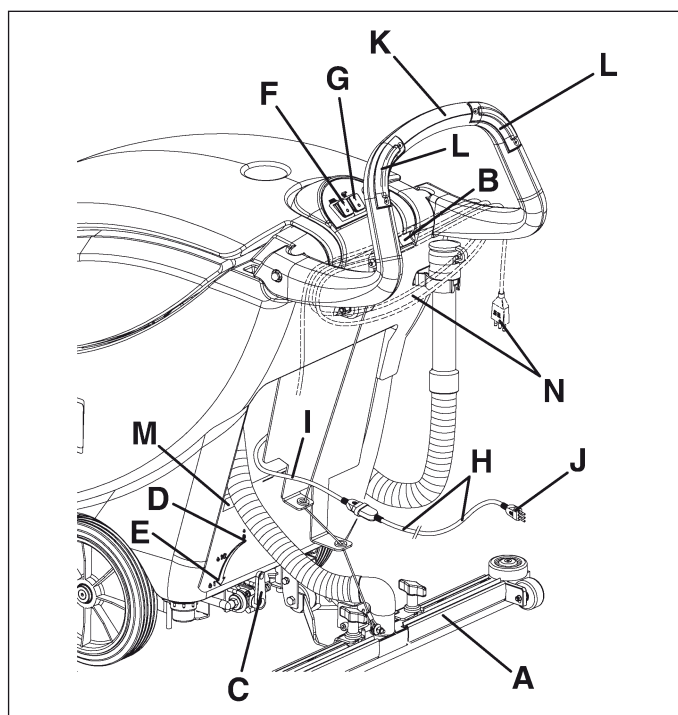

Figure 8
Connect the power supply cable (I) to the extension (H, Fig. 8) supplied. Connect the extension plug (J) to the electrical mains.
Before connecting the machine to the electrical mains, make sure that the frequency and voltage shown in the serial number plate/technical data (M, Fig. 8) match the mains voltage.
3. Lower the squeegee (A, Fig. 8) by pushing the lever (B) downwards.
4. Turn the solution flow control lever (C, Fig. 8) to one of the following positions, according to the type of cleaning to be carried out:
- **ECO system:** When the lever (C, Fig. 8) is in the “ECO” position (D), the machine works in a special condition of programmed water “economy” usage; as the water flow is set and constant, the machine can work with a cleaning time of 70-80 minutes [0.08 gal/min (0.3 liters/min)].
- **Variable system:** When the lever is turned to the left (variable flow), it is possible to increase the capacity up to 0.26 gal/min (1 liter/min) (E, Fig. 8).During machine operation, it is not possible to completely close the water flow to the brush/pad.
5. Turn the switches (F and G, Fig. 8) to the “I” position.
6. While keeping both hands on the handlebar (K, Fig. 8), start the machine by pressing one or both the activation switches (L).
7. Release the switches (L, Fig. 8).
8. Turn the switches (F and G, Fig. 8) to the “0” position.
9. Disconnect the power supply cable plug (J) from the electrical mains. If necessary, roll up the power supply cable (H, Fig. 8) on the handlebar into position (N).
10. Lift the squeegee by pushing the lever (B, Fig. 8) completely upwards.